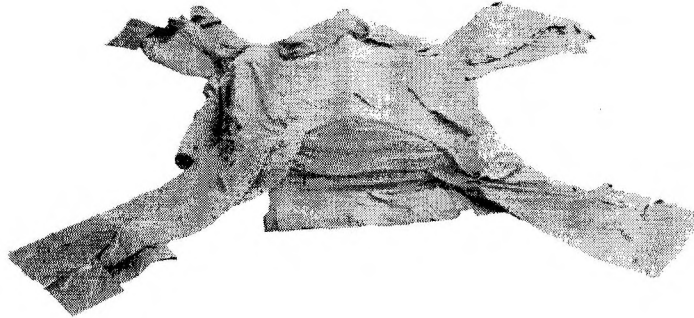

Fig 16 Place Canvas Over Roof Frame
12.5 Unzip and roll up all door panels, and fit the canvas onto the assembled roof framework. Fig 16.